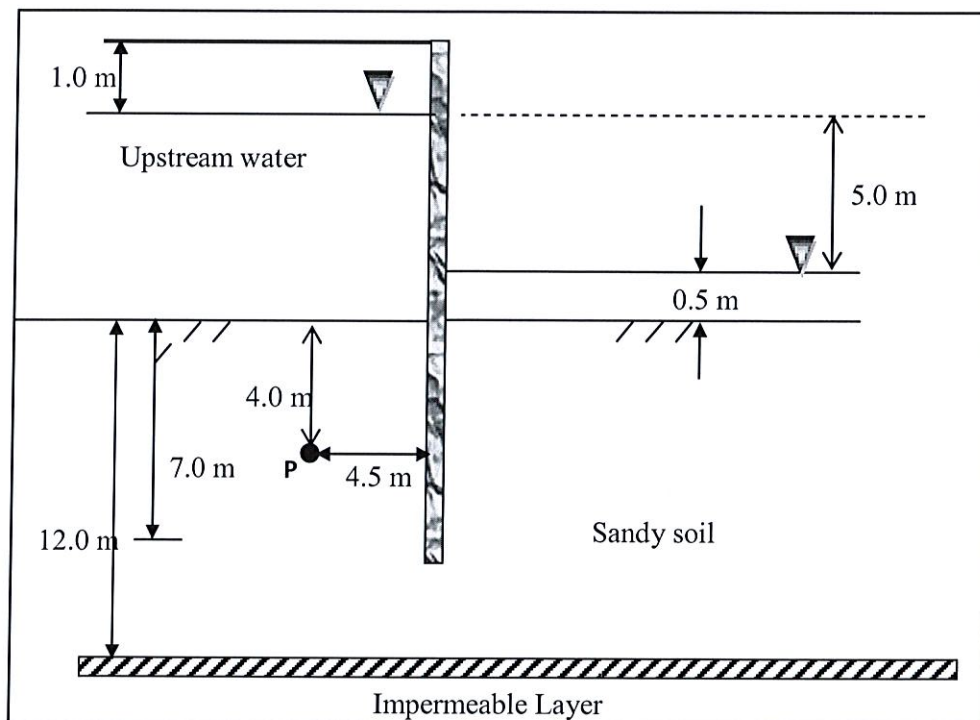

Figure 1
- a) Figure 1 shows a sheet piling in a sandy soil impounding upstream water. If the coefficient of permeability (k) is 7.2×10^{-3} mm/sec: [CLO 2]